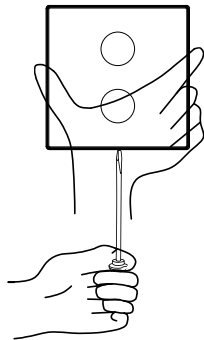

Figure 11. Disassembly
**Disassembly - See Figure 11**